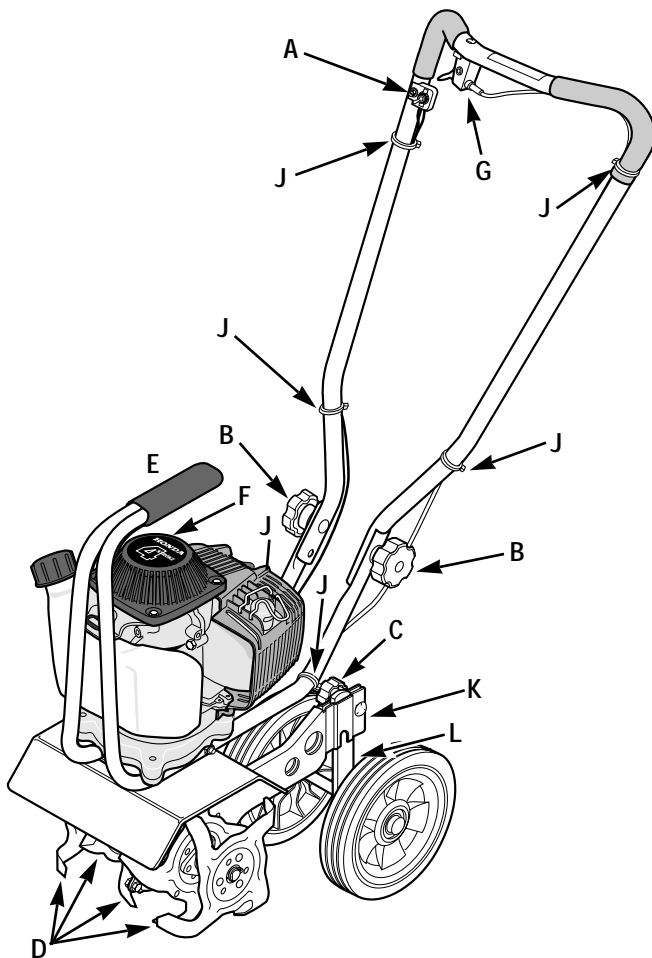

Figure 2: Features and controls.
Handlebar Height Adjustment Knob (B, Figure 2)
Tilling Depth Adjustment Knob (C, Figure 2)
Adjustable Tine Patterns (D, Figure 2)
Carrying Handle (E, Figure 2)
Engine On/Off Switch (A, Figure 2)
Engine Recoil Start Rope (F, Figure 2)
Throttle/Tines Control Lever (G, Figure 2)
4. Check the six plastic cable ties (J, Figure 2). Be sure that cables and ties are positioned as shown. Cables must not be kinked or jammed in the handlebar.
To stop the engine, move the On/Off Switch (A, Figure 2) to the OFF position.
NOTE: Do not squeeze Engine Throttle/Tines Control Lever (G, Figure 2) when starting engine.
1. Move the On/Off Switch (A, Figure 2) to the ON position.